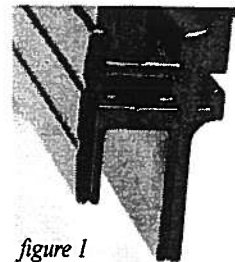
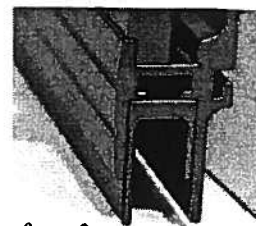

figure 1
figure 2
Z-Fyre Flex is shipped with bottom "J" channel retracted and short side facing towards living area (to facilitate fireplaces requiring bottom cooling air intake, see figure 1).
If you do not require bottom air intake and want the long side of "J" channel facing the living area (see figure 2):
**STEP 1** - Insert center rod bracket into slot on rear center of outer frame. Align with center glass gap. Hold at angle while inserting (see figure 1), then press bracket downward to lock bracket into place (see figure 2).